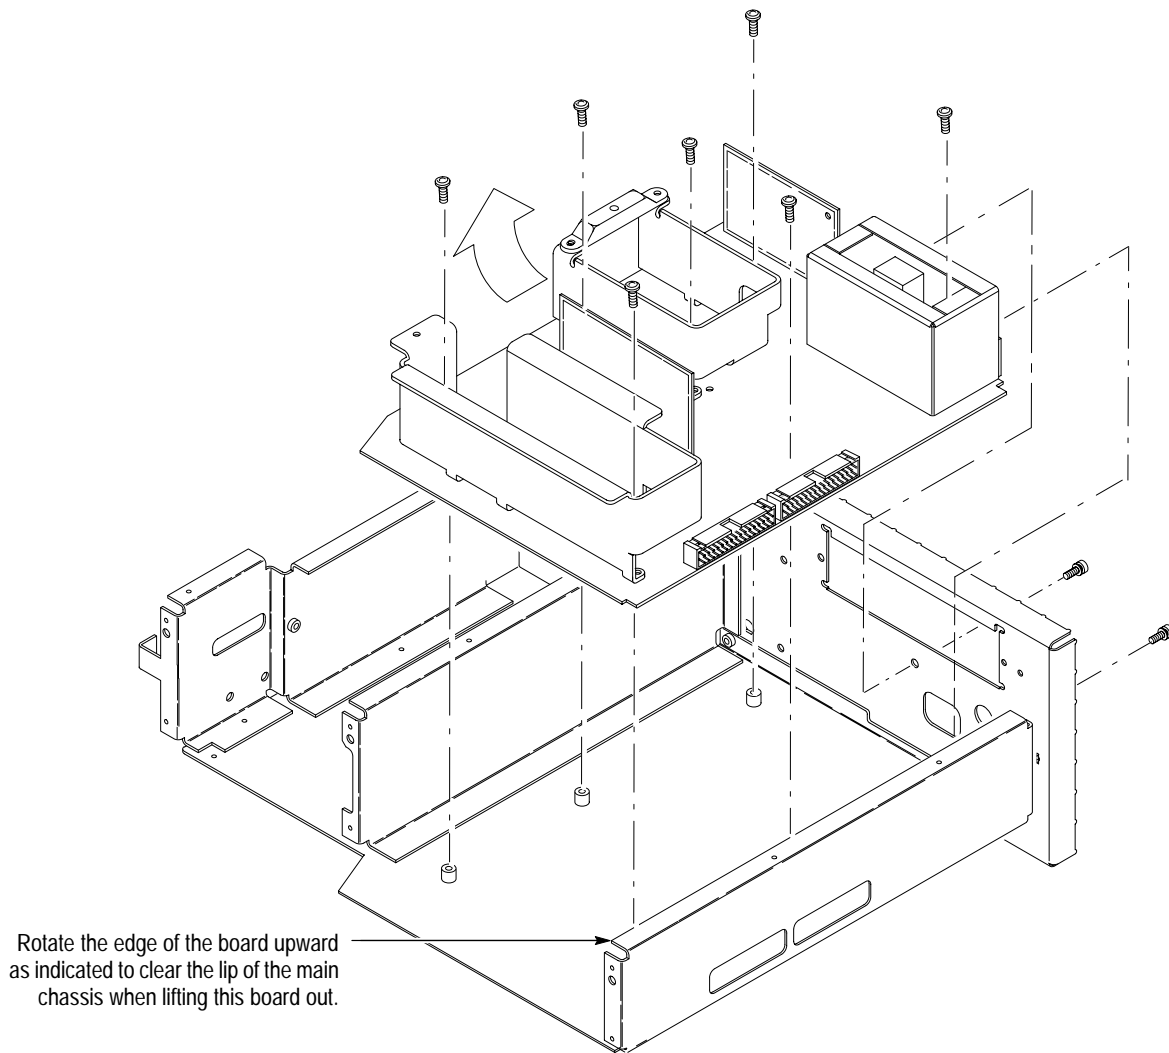

Figure 6-21: A16 Low Voltage Power Supply Removal
- a. Working from the rear of the logic scope, remove the two screws securing the low-voltage power supply to the rear chassis. See Figure 6-21.
- b. Now, working from the top of the logic scope, remove the seven screws, indicated in Figure 6-21, that mount the supply to the main chassis.